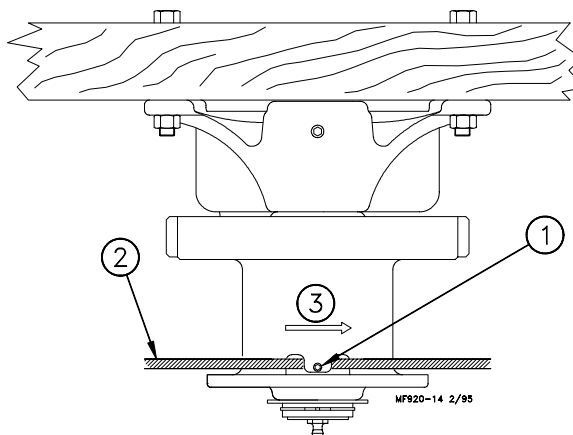

Figure 31. Attaching the Cable to the Power Winch
- Attach the 2"x8" (50x200 mm) board (with the Power Winch secured) to the ceiling at the center of the feeder line. See Figure 31 on page 34. The 2"x8" (50x200 mm) must be parallel to the line and must span at least 3 rafters. If the hopper is located at the center of the feeder line, locate the Power Winch a few feet offset from the center of the feeder line. However, the Winch Drum must be directly in line with where the main cable is to be installed.
4. Wrap the cable through the Winch Drum Relief located near the bottom of the drum. Tighten the set screw to anchor the cable to the drum. See Figure 31.